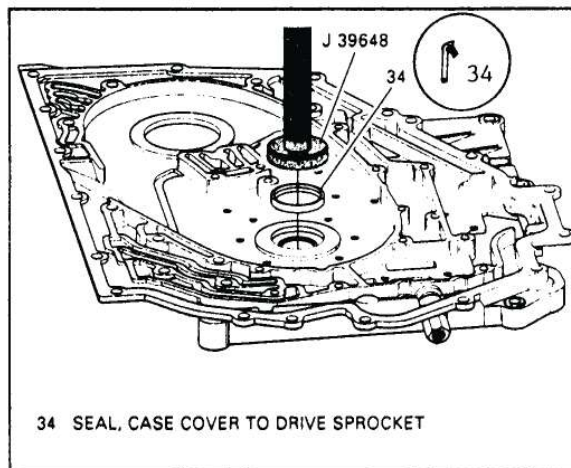

Figure 108
4. Install case cover to drive sprocket seal using tool J-39648 (Figure 108). Install this seal with the lip facing down as shown in Figure 108.